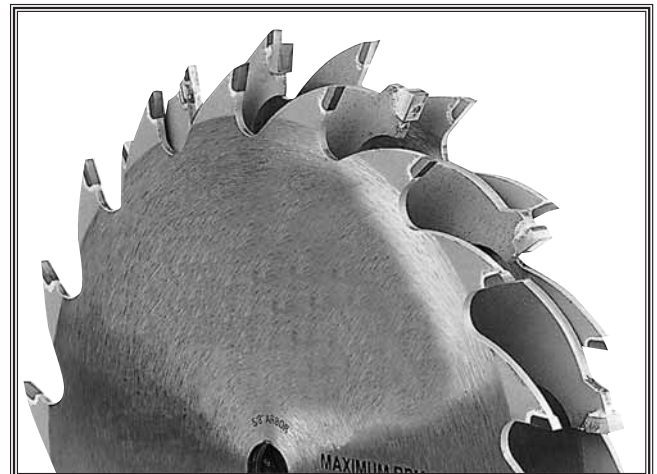

Figure 62. Dado blade.
- **Figure 62** shows a stack dado blade. Dado blades come in three different types: stack dadoes, wobble dadoes, and V-dadoes. Dado blades allow the operator to change kerf sizes and to make quick and easy non-through cuts. Dado blades are primarily designed for making dado and rabbet cuts. The drawback to these types of blades are their high cost.